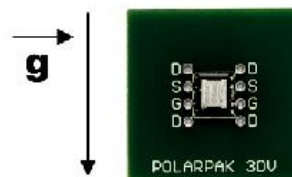

Figure 35.
- **XY gravity** for a PCB with a vertical orientation (see the picture in Figure 35).